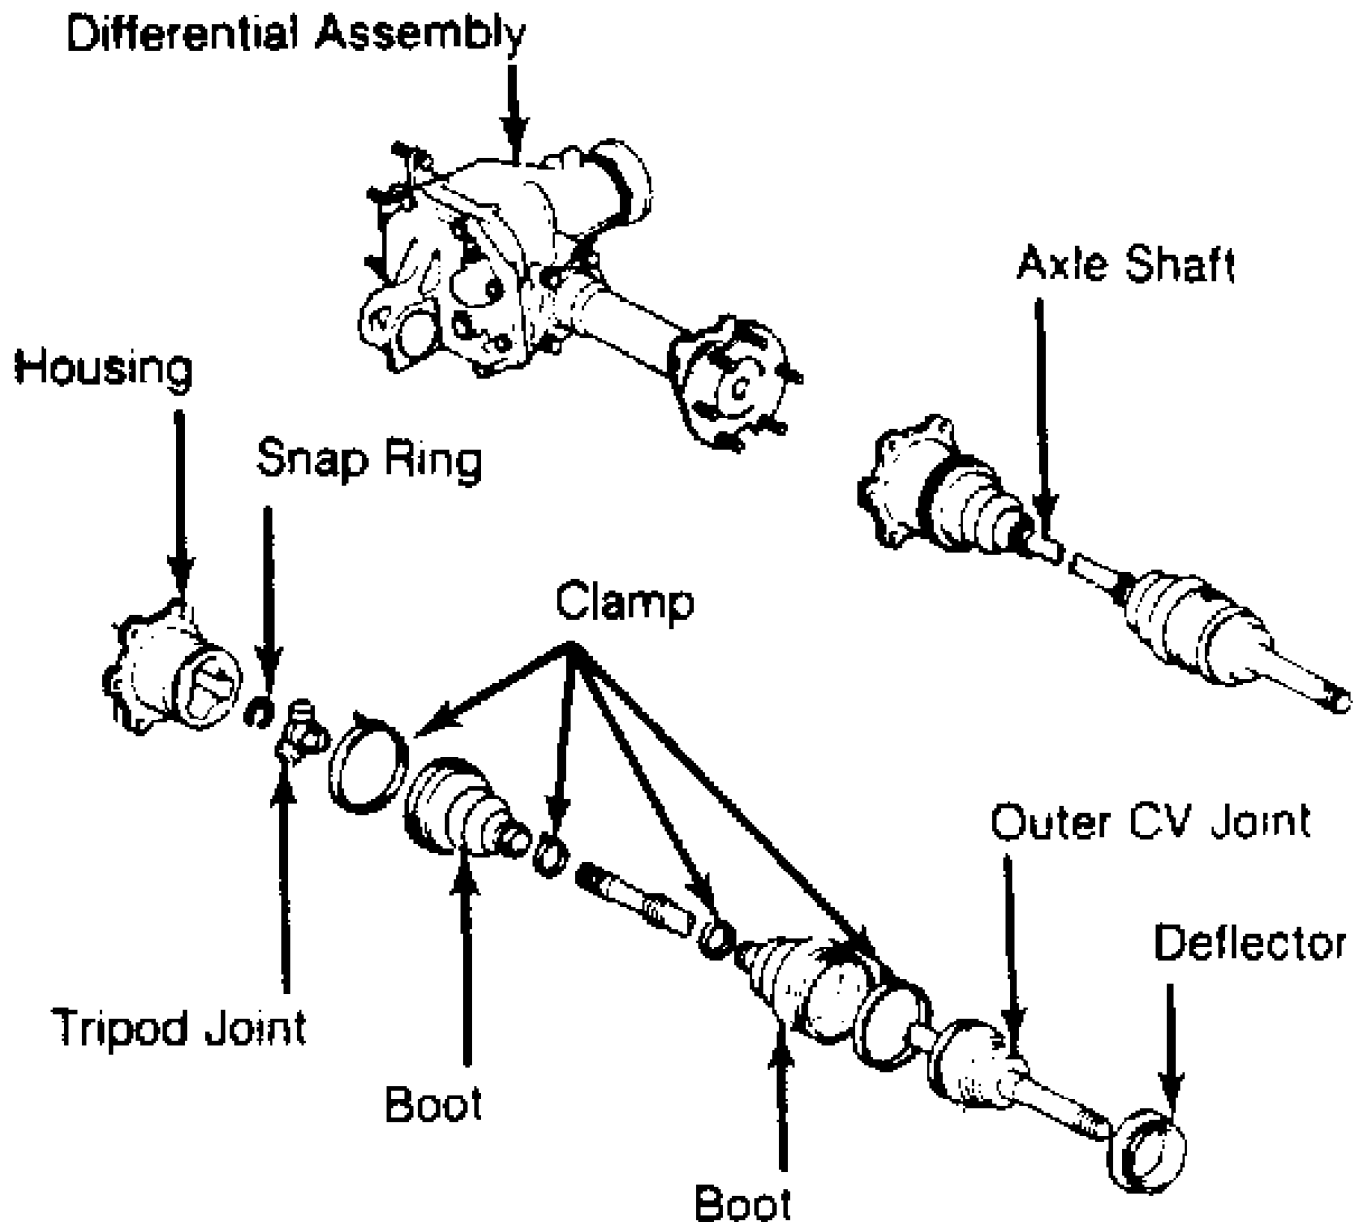

Fig. 6: Exploded View of Pickup, Van & 4Runner Drive Axle Shaft
4) Loosen retaining nuts attaching inboard axle shaft to front differential. See Fig. 6. Remove snap ring from outboard end of axle shaft. Remove retaining nuts and slide axle shaft toward steering knuckle until free from differential. Pull axle shaft down and away out of steering knuckle.